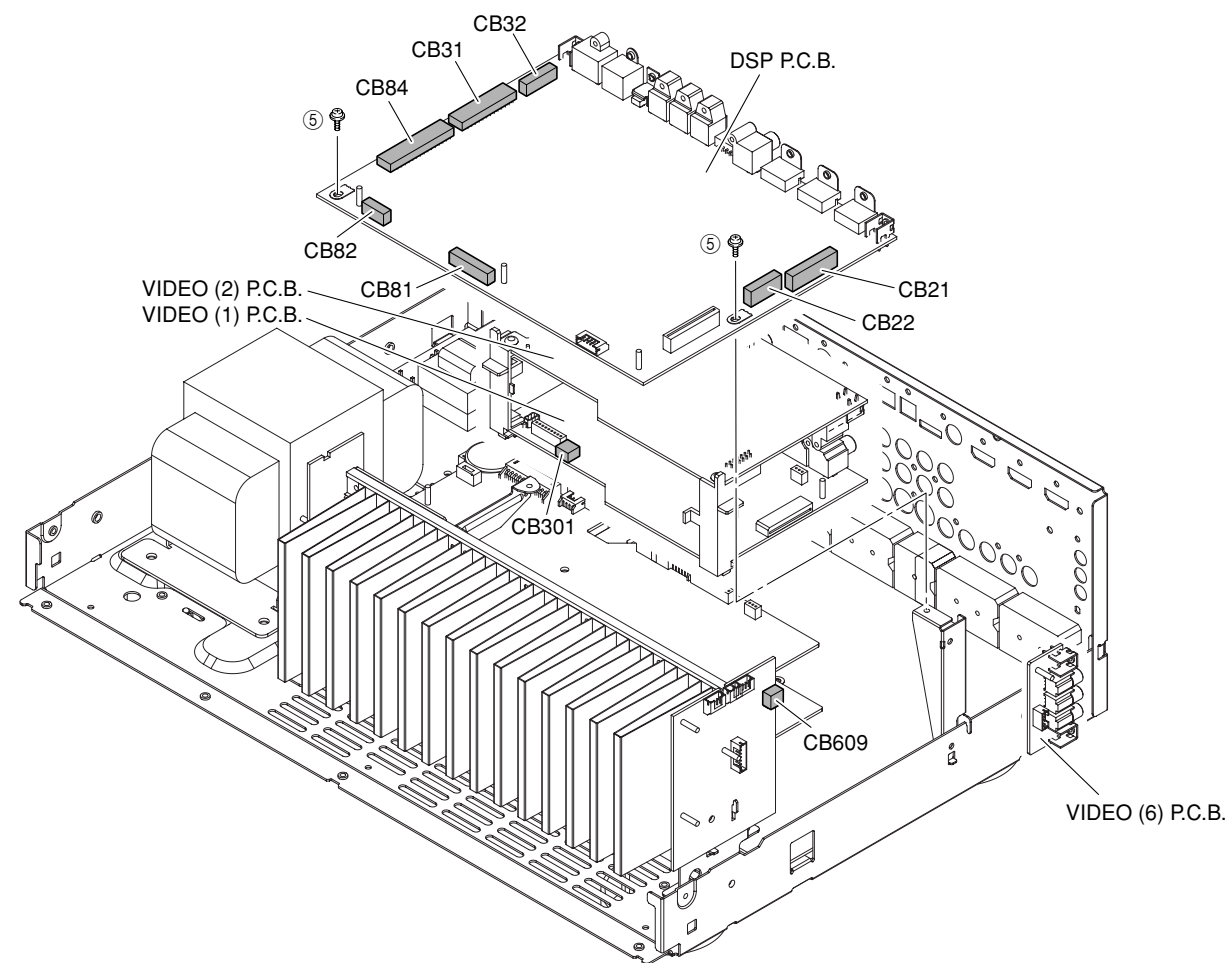
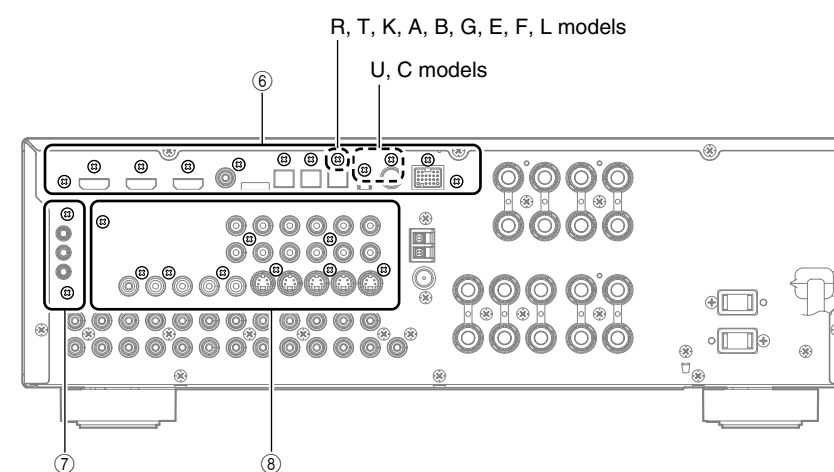

Fig. 2
Fig. 3
- Remove 2 screws (5). (Fig. 2)
- Remove 11 screws (U, C models) / 10 screws (R, T, K, A, B, G, E, F, L models) (6). (Fig. 3)
- Remove CB21, CB22, CB31, CB32, CB81, CB82 and CB84. (Fig. 2)
- Remove DSP P.C.B. (Fig. 2)
4. Removal of VIDEO (1), (2) and (6) P.C.B.s
- Remove 2 screws (7). (Fig. 3)
- Remove VIDEO (6) P.C.B. (Fig. 2)
- Remove 9 screws (8). (Fig. 3)
- Remove CB301 and CB609. (Fig. 2)
- Remove VIDEO (1) and (2) P.C.B.s. (Fig. 2)